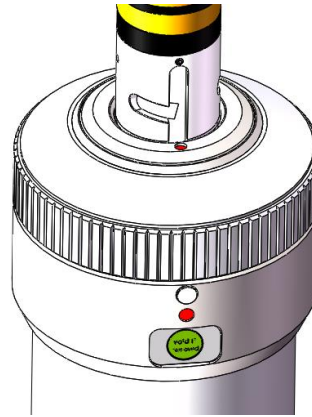

Figure 4 QBH optical fibre splice and optical fiber head
3. As shown in Figure 4, check the red dot to the red dot on QBH first, then align the T-shaped pin slot on the optical fiber and the red dot to form a line, and insert the optical fiber head with the protective cap into the QBH optical fiber interface.